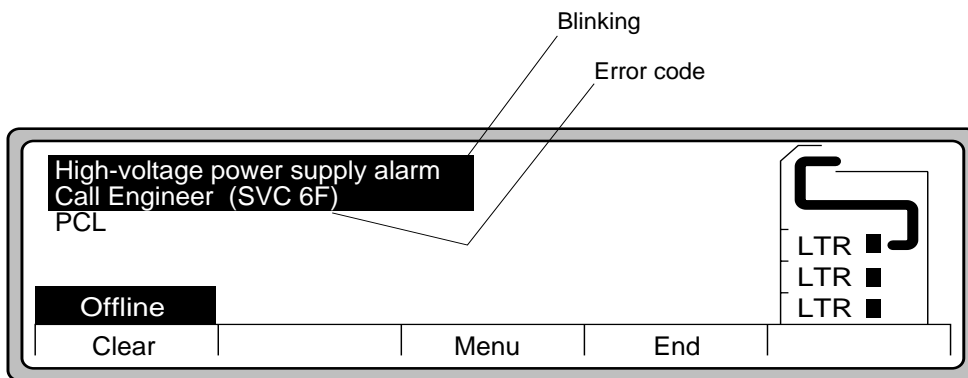

Figure 3-71 Call Engineer (Service Representative)
1. The printer may self-diagnose the problem and possibly display the message as shown in Figure 3-71.